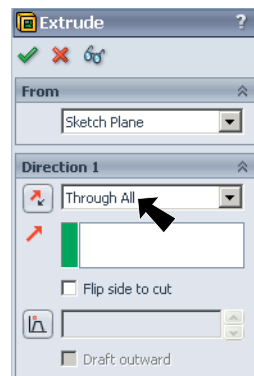
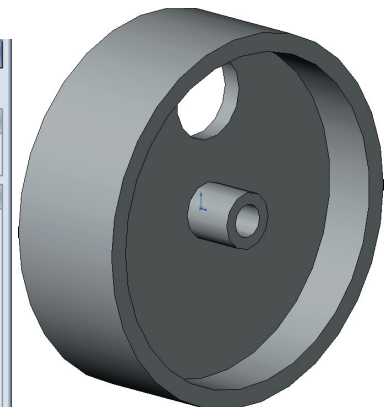

Fig. 13
Fig. 14
Step 10. Set **End Condition** to **Through All** in the Property Manager and click OK , **Fig. 13** and **Fig. 14**.